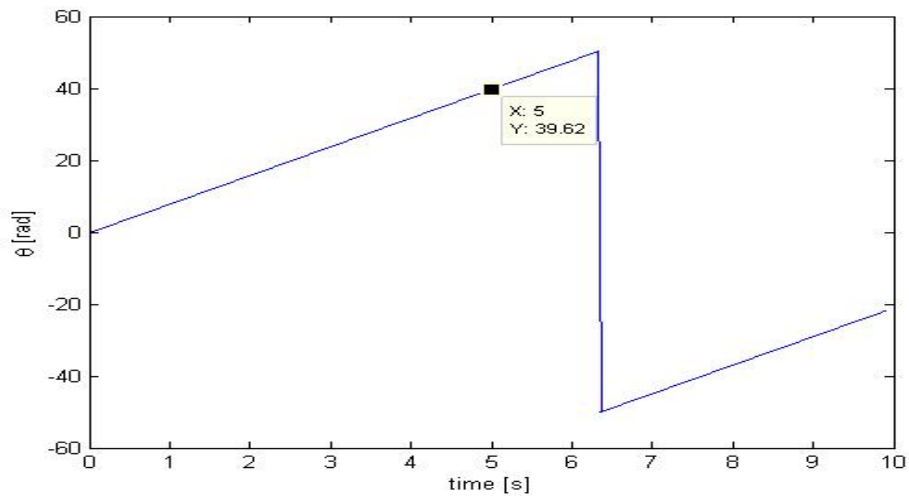

Figure 1.1: Plot for theta vs time for Lab 1
1. The plots for position and angular velocity of the motor can be found in figures 1.1, 1.2.